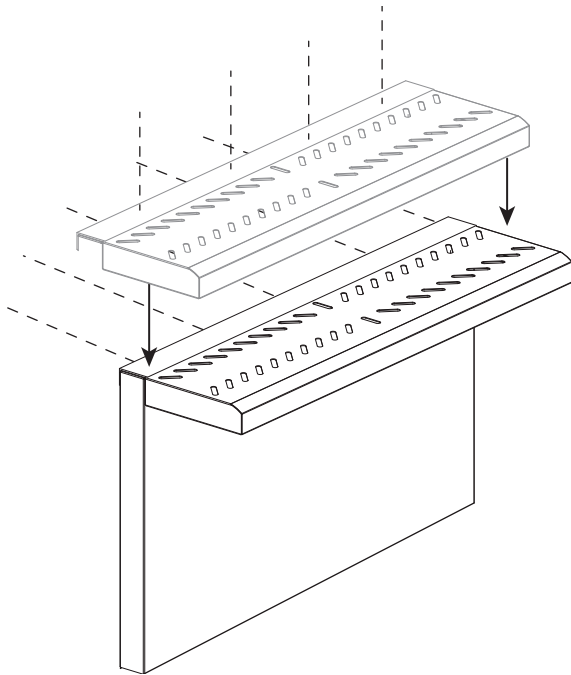

Figure 20: High Shelf Assembly
3. Install the included stainless screws along the topside of shelf and into the back of the shelf (Figure 20).